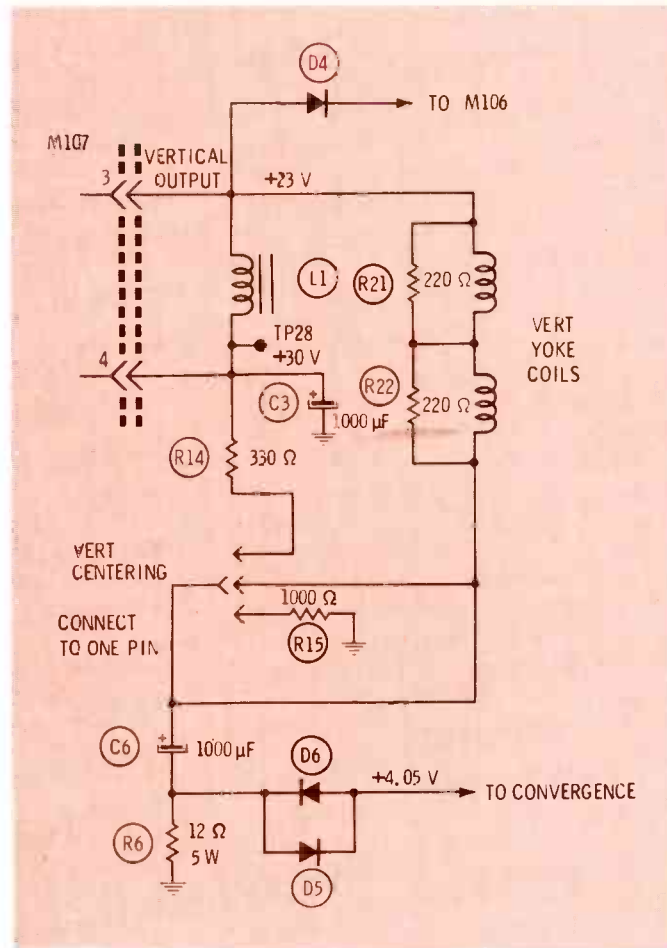

Fig. 14 This part of the vertical sweep (including the centering taps) is external to the module.
Fig. 17 Diode D4 (Figure 14) clips the positive tips of the retrace pulses. (A) The top trace is the normal Q8 collector waveform at the anode of D4, while the small 3-VPP sawtooth at the D4 cathode is shown by the bottom trace. If D4 shorts, the symptoms will be unmistakable. The picture will be pulled down from the top for an inch or so, the vertical-blanking period will appear a few inches from the bottom of the picture, and the picture will be covered by strong retrace lines. (B) Top waveform is correct for the R6 end of D5 and D6 (see Figure 14). After a slice of the center is removed by the diodes, the 8-VPP sawteeth of the bottom trace remain, and they are sent to the convergence board.
ing circuitry are external to the vertical module (Figure 14).
to the top pin (Figure 14), the 30-volt supply through R14 furnishes current to Q8 through the yoke, and the picture is moved lower. But, if the jumper connects to the pin that has the 1,000-ohm resistor, the current from the +23 volts at Q8's collector flows through the yoke, moving the picture higher on the screen.